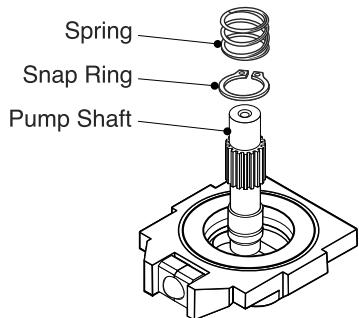

Fig. 35, Swash Plate Removal
- Remove the Spring and the Snap Ring. (Fig. 35)